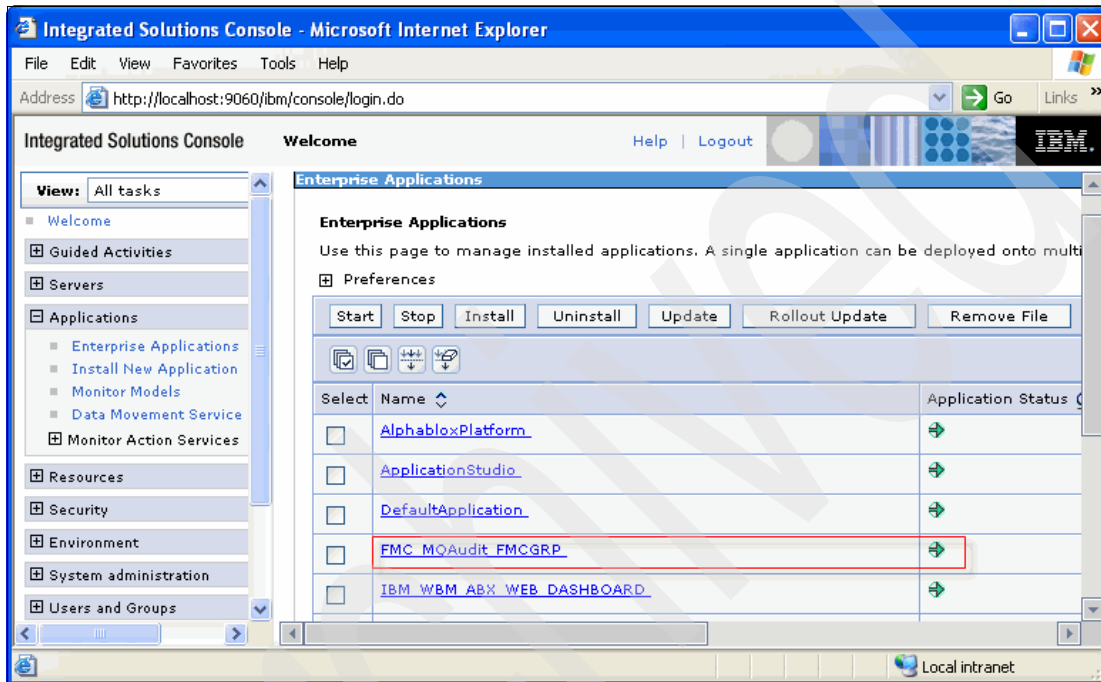

Figure 8-26 Verifying that the Event Converter is installed correctly
17. In the Integrated Solutions Console, in the left pane, expand **Applications** and click **Enterprise Applications**. Verify that the Event Converter application FMC_MQAudit_FMCGRP starts correctly (Figure 8-26). Of course, the remote WebSphere MQ machine starts at this time so that Event Converter can connect and start correctly.